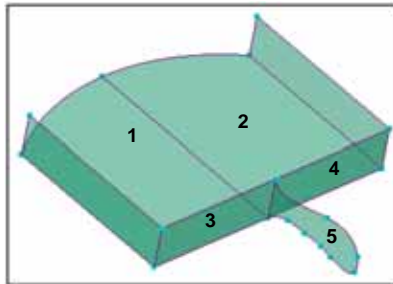

Figure 61: Regions for dustpan finished
3. Create five new regions, as indicated in Figure 61.